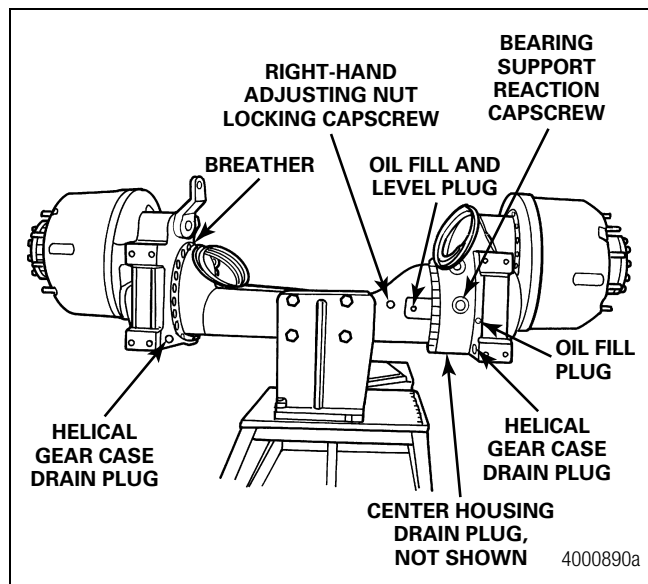

Figure 2.33
2. Place a drain pan under the axle. Remove and drain the oil from the two drain plugs on the lower side of the helical gear housing and the plug below the carrier in the center housing. Install the drain plugs and tighten them to 35 lb-ft (47 N•m). Figure 2.33.
3. Remove the fill plug from the helical gear case that is closest to the differential. Figure 2.33.
5. Remove the fill plug from the side of the axle housing bowl cover. Figure 2.33.